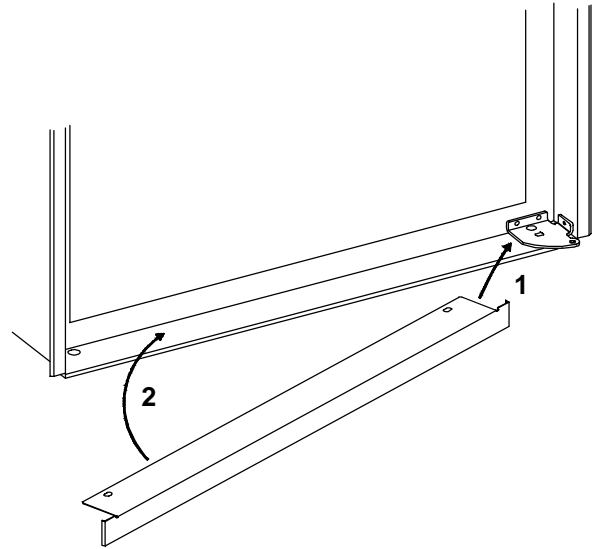

FIG. 7
1. Install the lower front strip by sliding it under the bottom hinge plate, as shown in FIG. 7. The hinge plate can be on the right or left side depending on the door swing.